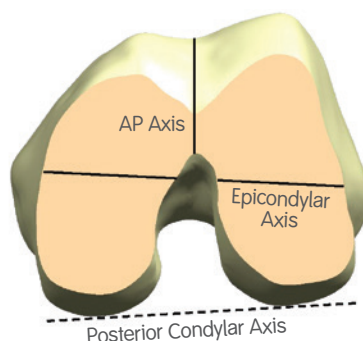

Figure 15
**Optional:** Mark the AP and epicondylar axis on the femur (Figure 15).